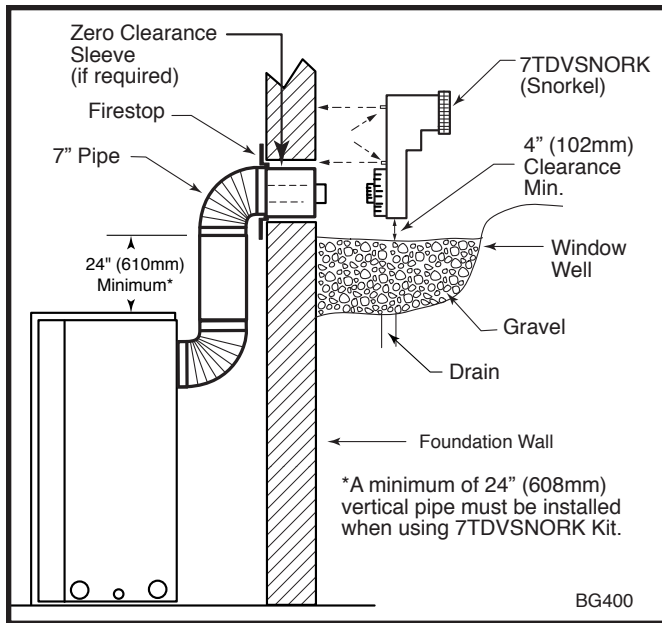

Fig. 31 Below grade installation.
2. Remove soil to a depth of approximately 16" (406mm) below base of snorkel. Install window well (not supplied). Refill hole with 12" (305 mm) of coarse gravel leaving a clearance of approximately 4" (102 mm) below snorkel. (Fig. 31)
7. Level the soil to maintain a 4" (102 mm) clearance below snorkel. (Fig. 31)